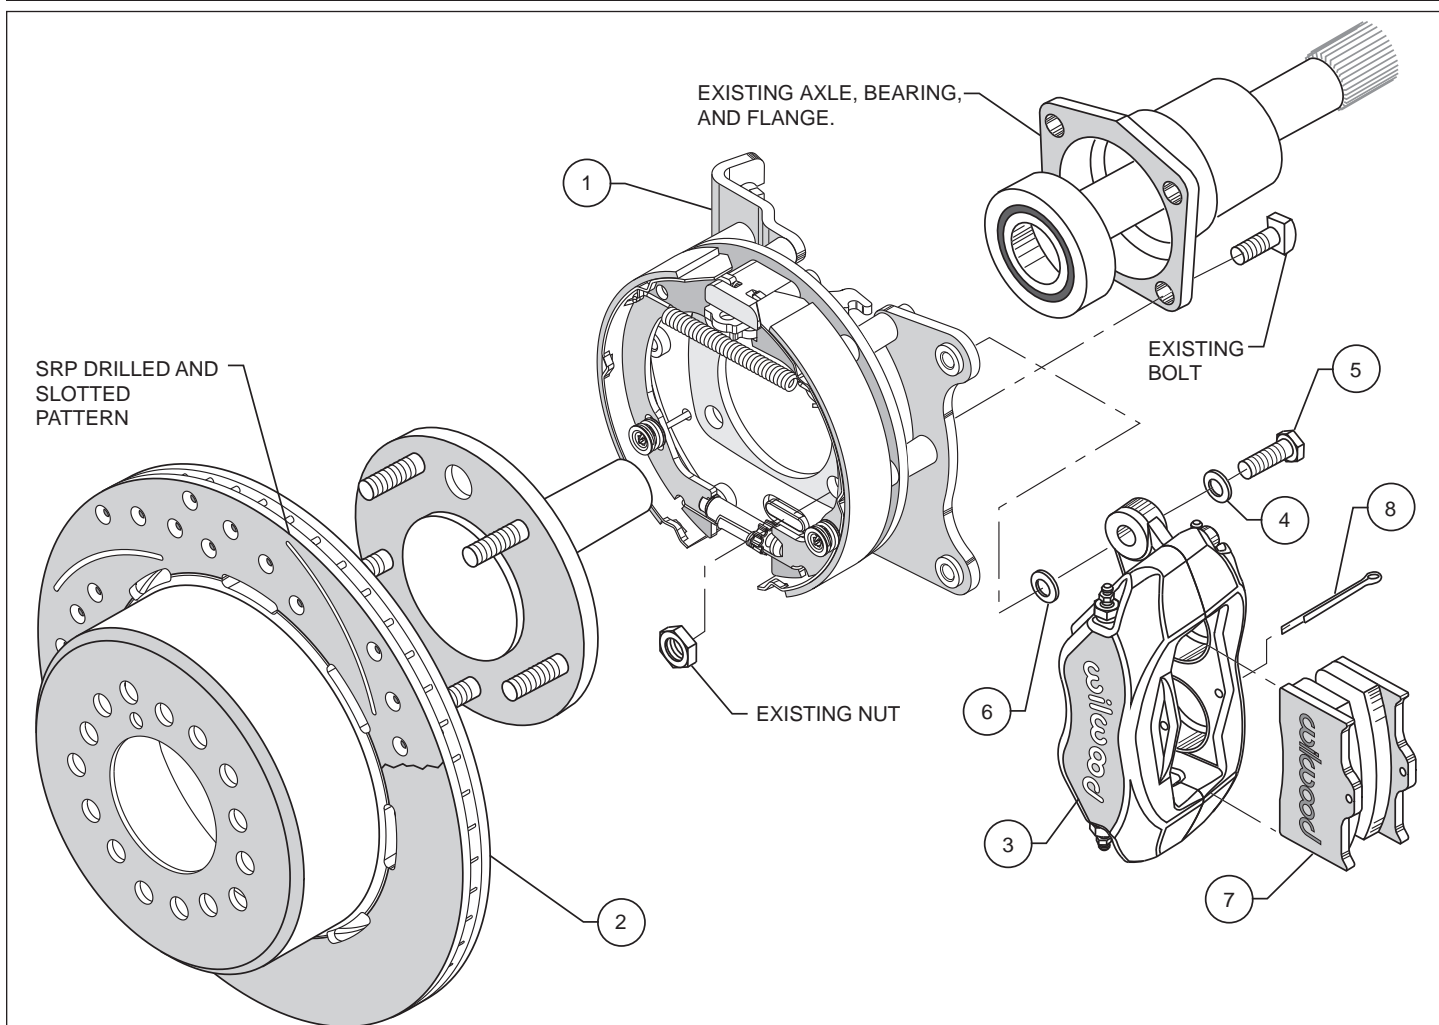
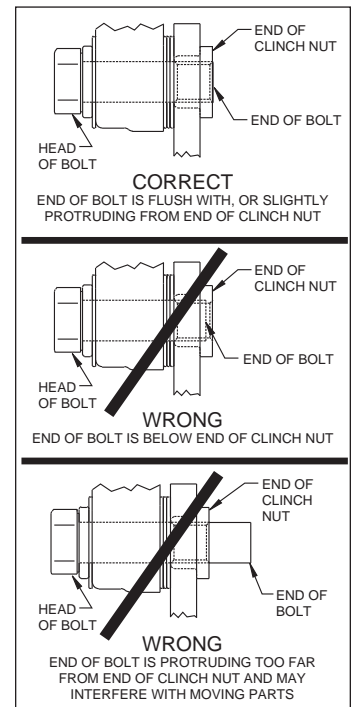

Figure 1. Typical Installation Configuration
Figure 4. Clinch Nut Engagement Diagram
- Orient the bracket assembly (1), as shown in Figure 1, and mount to the axle housing flange using the Original Equipment Manufacturer (OEM) bolts and nuts, Figure 1. Ensure that the bracket assembly backing plate fits flush against the axle housing flange. Apply red *Loctite*® 271 to the OEM bolt threads and torque to OEM specifications.
- Align the correct hole pattern in the rotor (2) with the stud pattern on the axle flange. **NOTE:** Some OEM and after market axles come with stud sizes larger than 0.50" diameter. Verify stud size and have a qualified machine shop drill the bolt circle of the rotor to the correct stud size, if necessary. Slide the rotor over the wheel studs covering the mounting bracket assembly (1) and against the axle flange face, Photo 1.
- **NOTE:** Please reference the caution statement at the beginning of the assembly instructions. Mount the caliper (3) onto the caliper mounting bracket (1) using bolts (5) and washers (4), as shown in Figure 1. Initially place one .035" thick shim (6) on each bolt between the caliper and the bracket, Photo 2. Temporarily tighten the mounting bolts and view the rotor (2) through the top opening of the caliper. The rotor should be centered in the caliper, Photo 3. If not, adjust by adding or subtracting shims between the bracket and the caliper. Always use the same amount of shims on each of the two mounting bolts. **NOTE:** The end of each bolt must be flush with or slightly protruding from the head of the clinch nut, as shown in Figure 4. If necessary place spare shims between washer (4) and caliper mounting ear to achieve the proper clinch nut engagement. Once the caliper alignment and clinch nut engagement are correct, remove the bolts one at a time, apply red *Loctite*® 271 to bolt threads, and torque to 40 ft-lb.